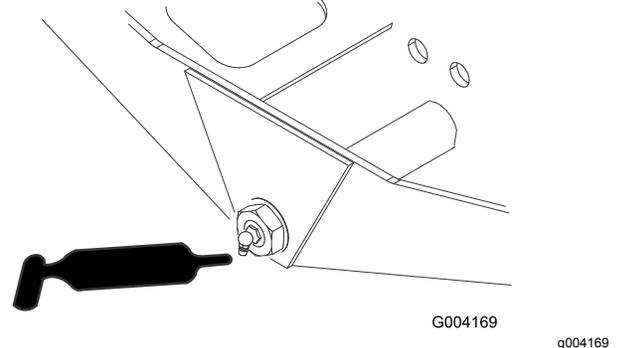

Figure 67
- Axle-steering pivot (1) (Figure 67)